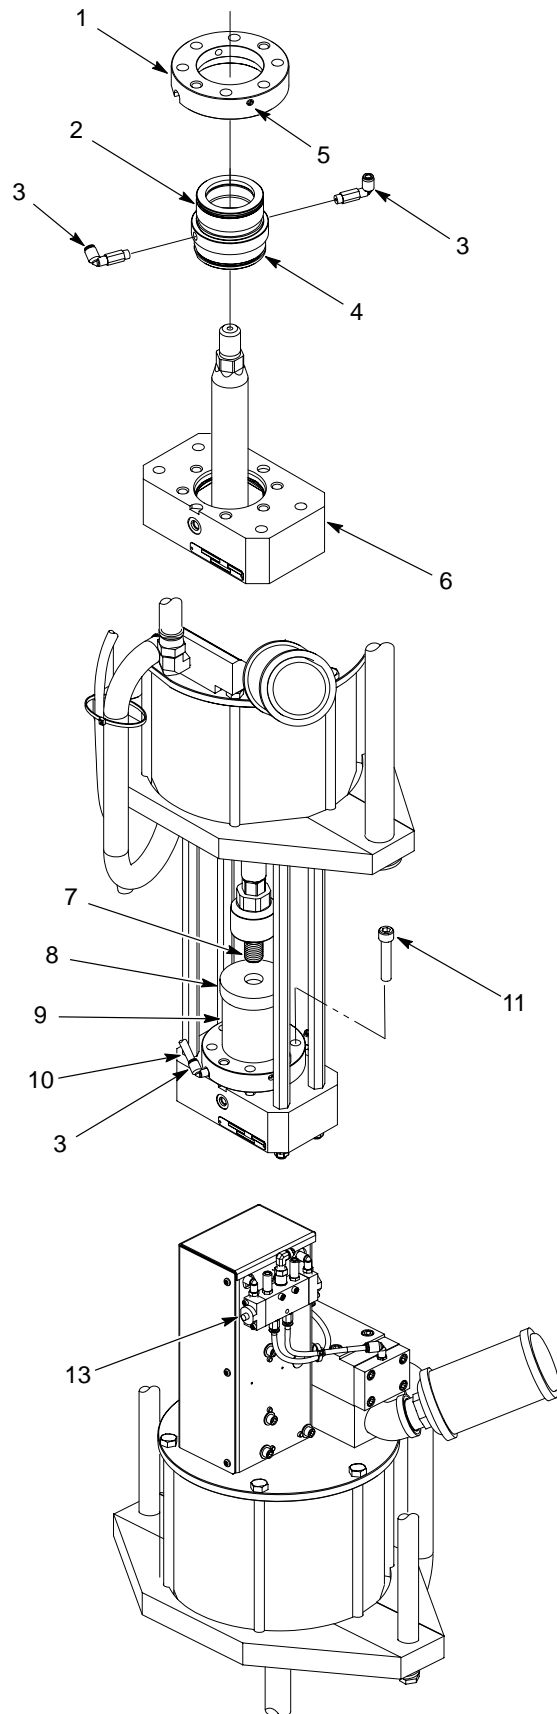

Figure 2 Installing the Packing Gland
| OFF | <ol style="list-style-type: none"> 1. See Figure 2. Clean upper collar (1). 2. Install the fittings (3) into the packing gland (2) and tighten securely. 3. Lubricate packing gland O-ring (2), I.D. of packing gland seals, and bushing area with Mobil SHC 634 lubricant. 4. Install upper collar (1) onto packing gland (4). Tighten set screws (5) until they make contact with packing gland. Do not over tighten. 5. Install packing gland assembly into pump body (6). 6. Install solvent chamber cup (9) onto packing gland assembly. 7. Place packing gland insertion tool (8) on top of solvent chamber cup (9). |